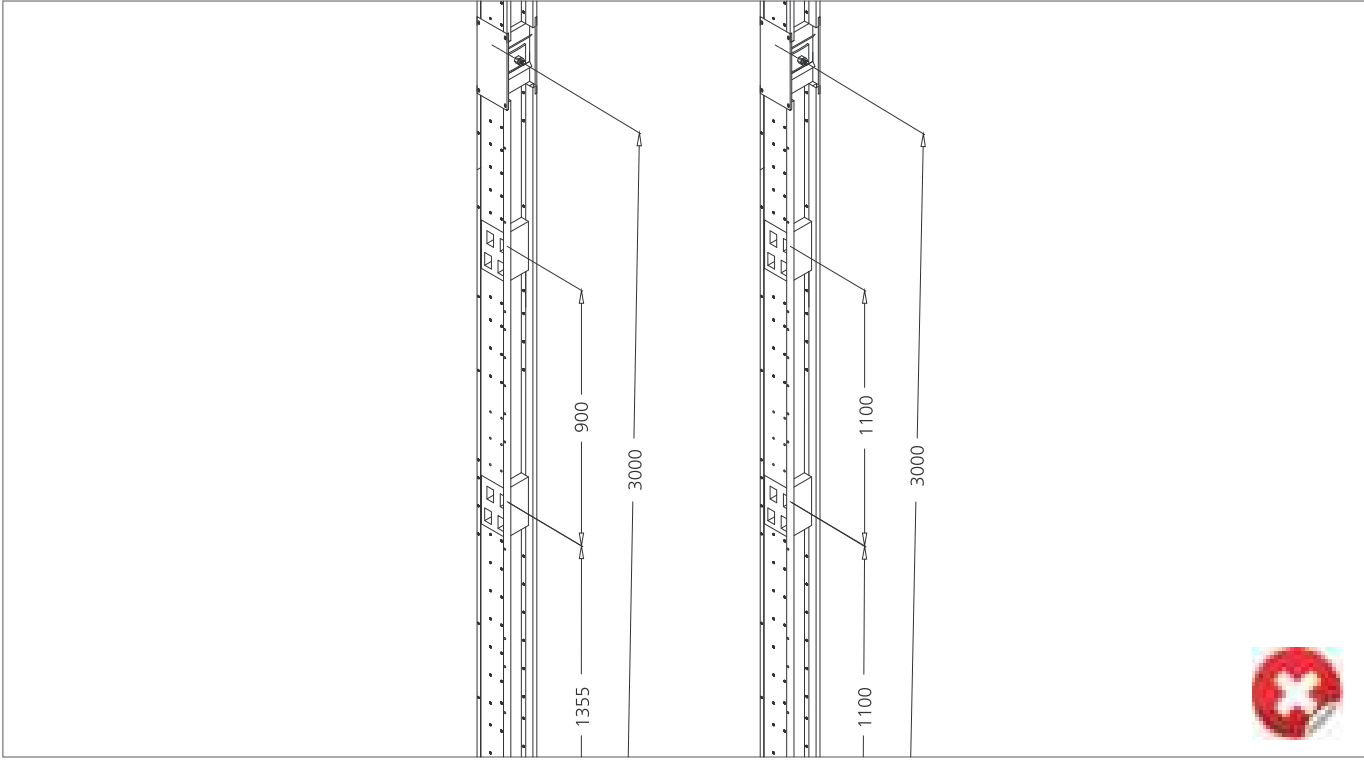

Fig 11 (avoidable practice)
- Fig.11 shows the two varieties of Plug-in Feeders. It can be changed to a single variety.